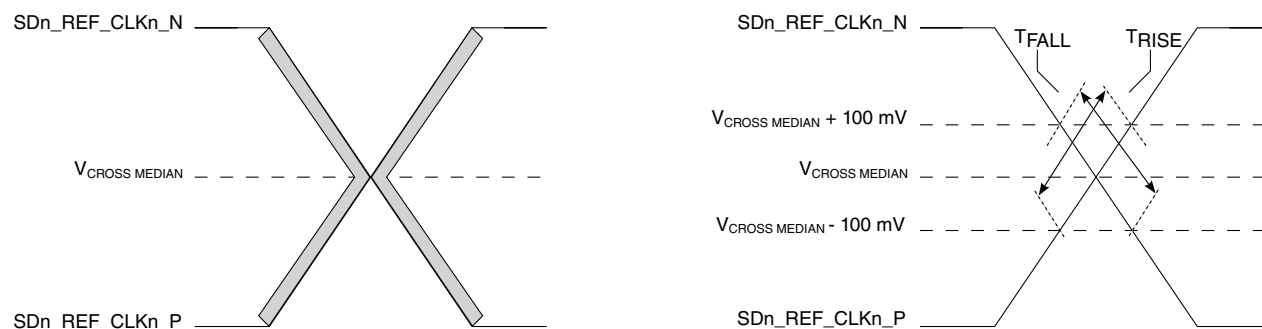

Figure 35. Single-ended measurement points for rise and fall time matching
11. Matching applies to rising edge for SDn_REF_CLKn_P and falling edge rate for SDn_REF_CLKn_N. It is measured using a 200 mV window centered on the median cross point where SDn_REF_CLKn_P rising meets SDn_REF_CLKn_N falling. The median cross point is used to calculate the voltage thresholds that the oscilloscope uses for the edge rate calculations. The rise edge rate of SDn_REF_CLKn_P must be compared to the fall edge rate of SDn_REF_CLKn_N, the maximum allowed difference should not exceed 20% of the slowest edge rate. See Figure 35 .